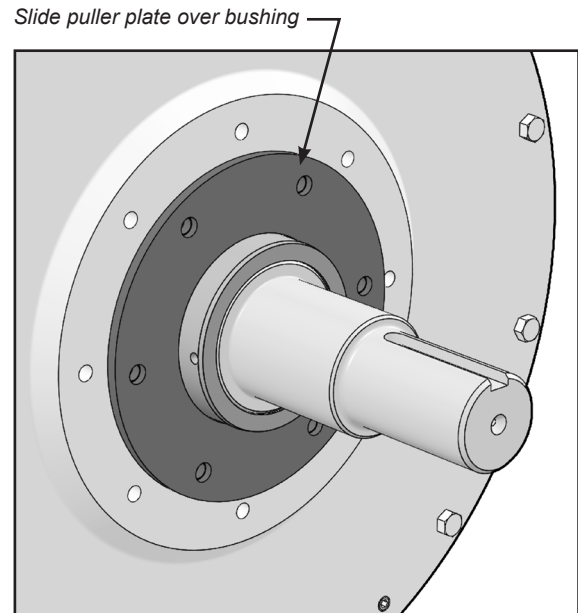

FIGURE 13
14. Slide the puller plate over the bushing with the weld nuts facing towards endplate (Figure 13).